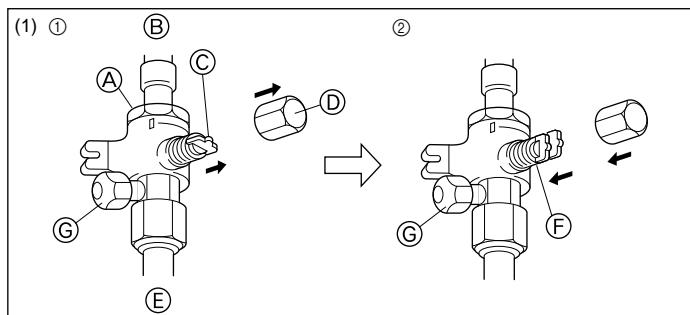
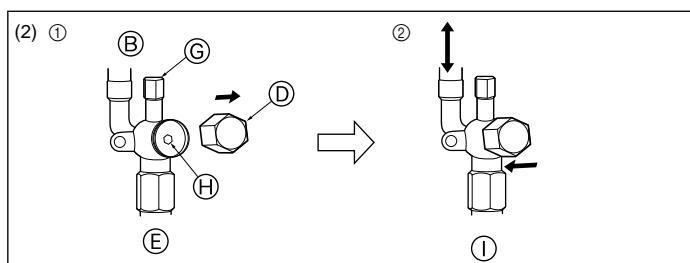

Fig. 4-6
Fig. 4-7
(1) Gas side (Fig. 4-6)
- ① Remove the cap, pull the handle toward you and rotate 1/4 turn in a counterclockwise direction to open.
- ② Make sure that the stop valve is open completely, push in the handle and rotate the cap back to its original position.
- (2) Liquid side (Fig. 4-7)
- ① Remove the cap and turn the valve rod counterclockwise as far as it will go with the use of a 4 mm hexagonal wrench. Stop turning when it hits the stopper. (ø6.35: Approximately 4.5 revolutions) (ø9.52: Approximately 10 revolutions)